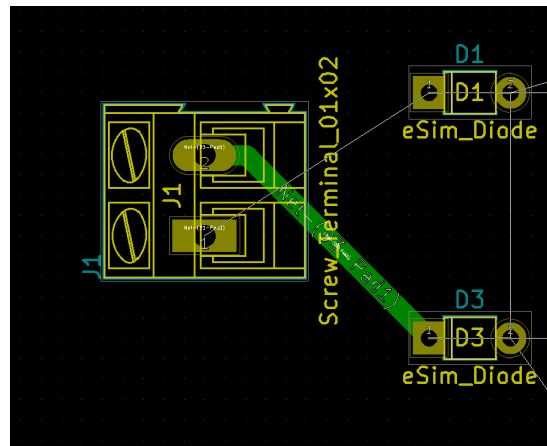

Figure 12.19: Track placed on B.Cu. between Screw_Terminal_01x02 connector and D3 Diode
4. Working layer is B.Cu., Place Track tool is selected earlier. Click the pencil icon tied to cursor on the Node 2 of Screw_Terminal_01x02 and drag the cursor till Node 1 of D3 diode and double click on Node 2 of D3. By double clicking the track will end at Node 2 of D3. Please refer Fig. 12.19 for the mentioned track being placed.